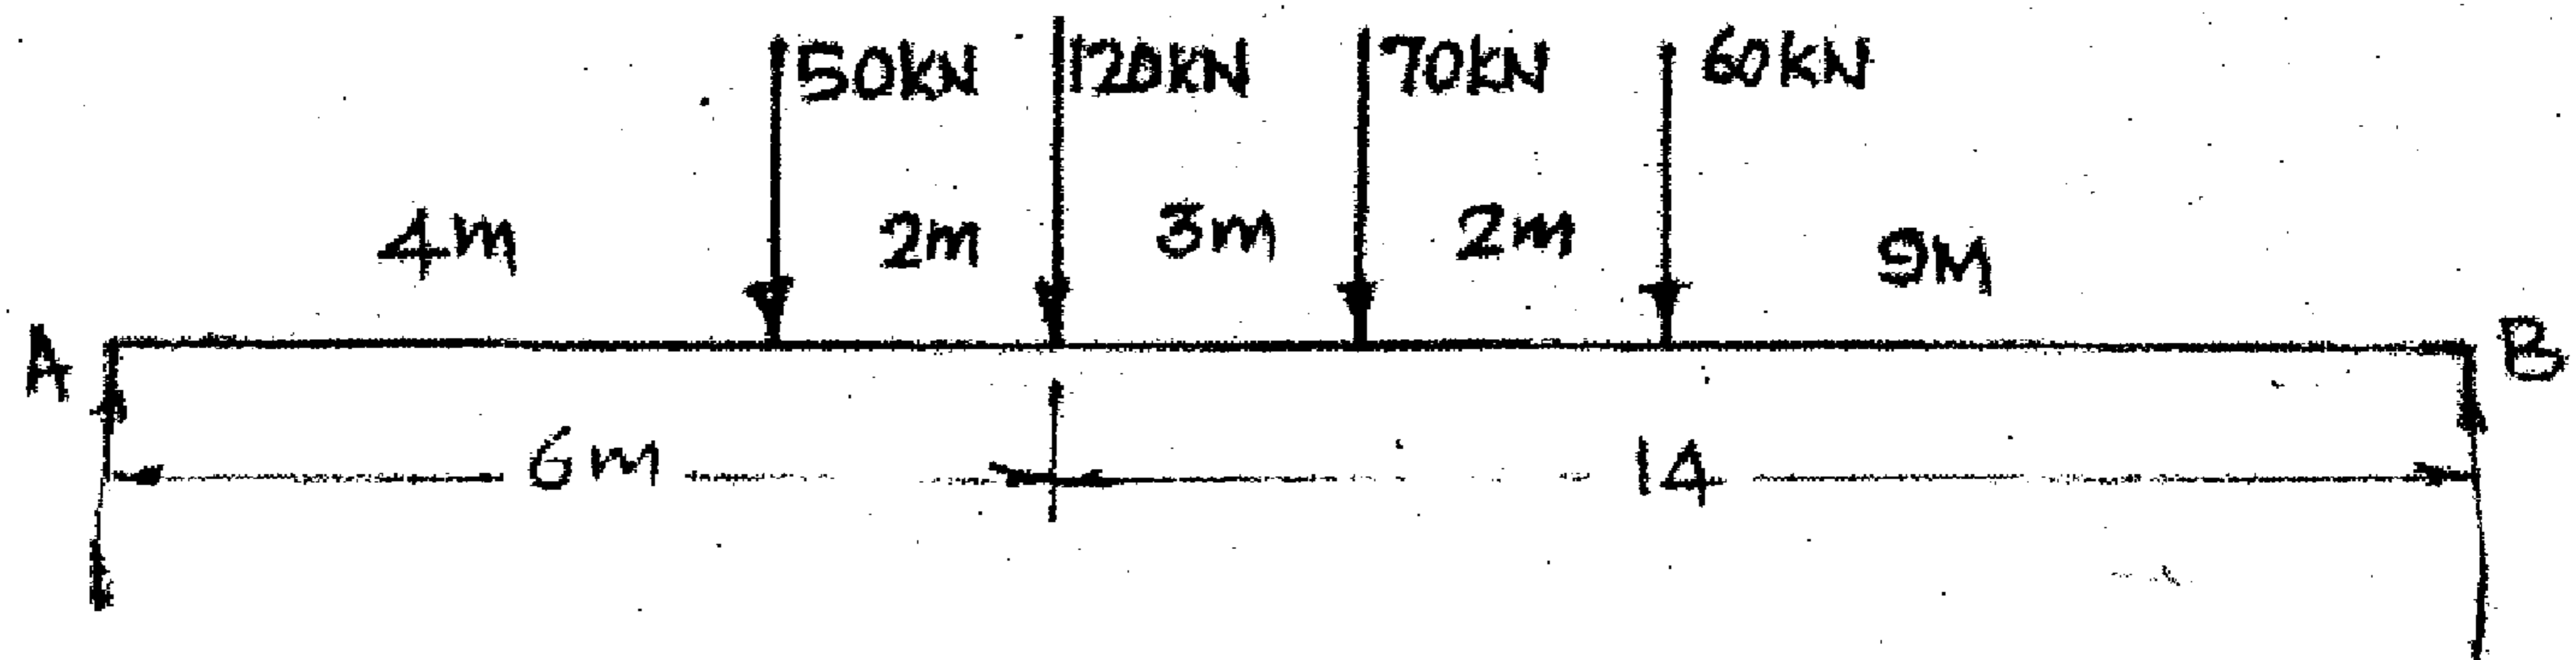

Fig. Q1
- 1 A series of wheel loads of 60 kN, 70 kN, 120 kN and 50 kN spaced at 2m, 3m and 2m crosses over a simply supported girder of span 20m from left to right with 60 kN load leading as shown in figure Q1. Determine